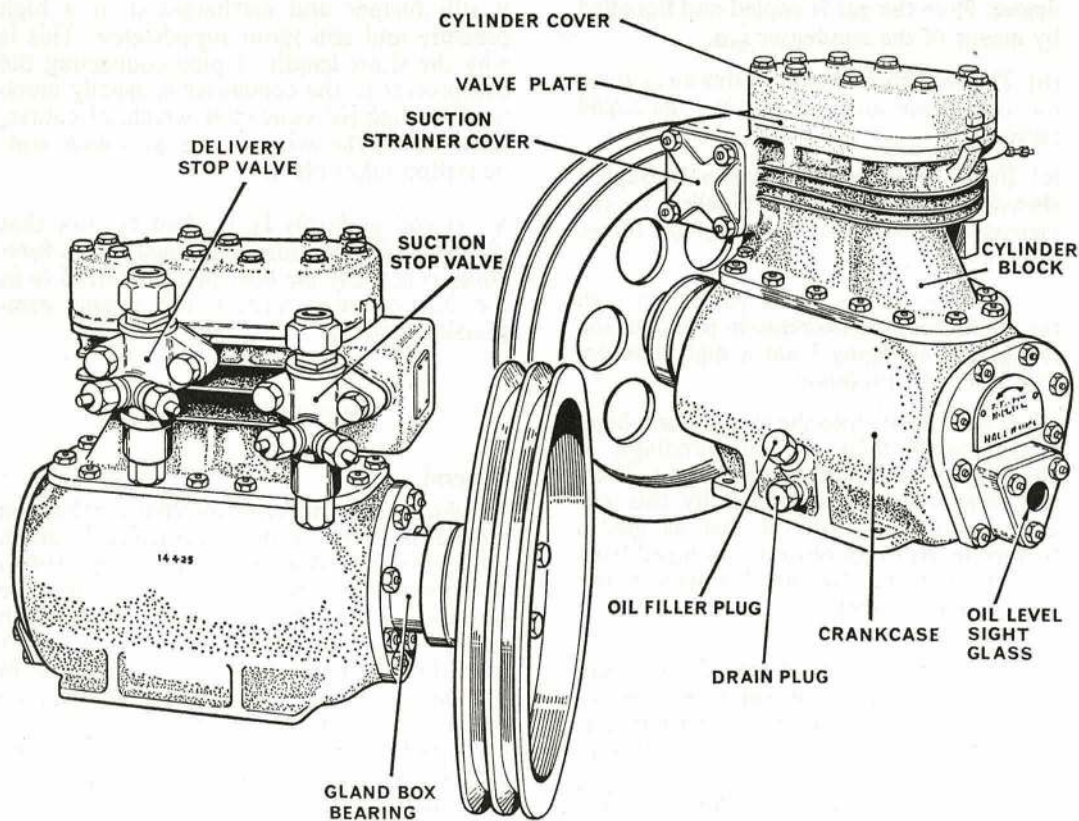

Fig. 4. TYPICAL COMPRESSOR
10. The compressor is a mechanical pump that is driven by the power unit. Its purpose is to pump the refrigerant gas from the evaporator and deliver it to the condenser at the required pressure for condensation. There are various types in use and a typical example is shown at Fig. 4.